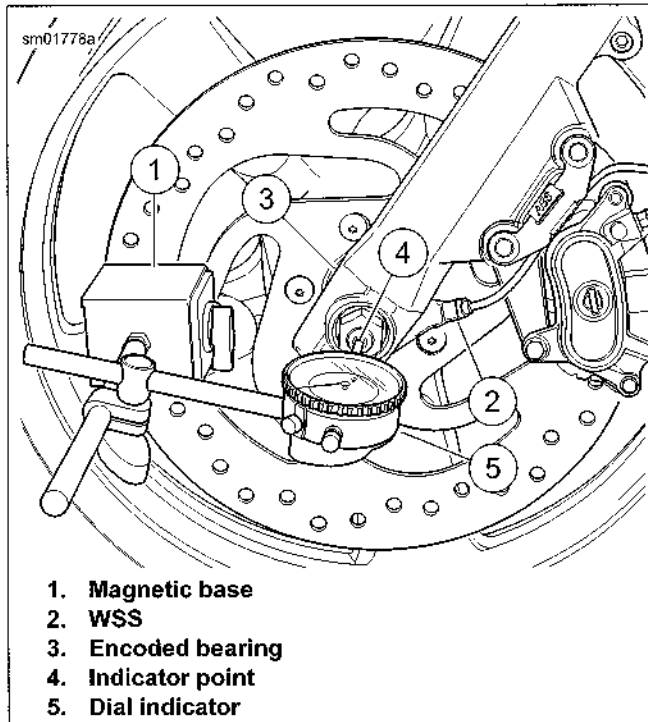

Figure 2-9. Measuring Wheel Bearing End Play
ABS models: See Figure 2-9. Mount magnetic base (1) far from WSS (2) and ABS encoder bearing (3).
3. Set the indicator contact point (4) on the end of the axle.
4. Move the wheel all the way back. Hold the wheel in position. Zero the dial indicator (5).